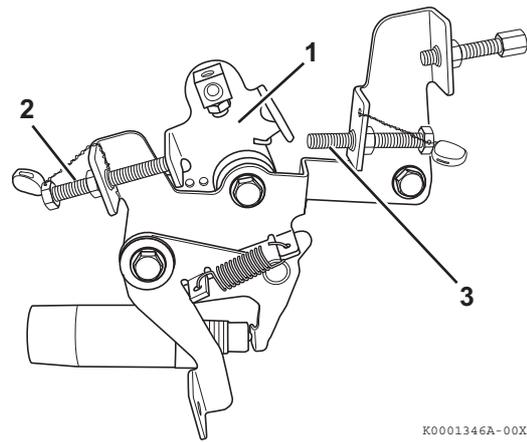

Figure 7
The speed control lever (**Figure 7, (1)**) controls the engine speed. The lever could be linked to the engine speed control device.
The low idle speed limit screw (**Figure 7, (2)**) sets engine speed while it is idling.
The high idle speed limit screw (**Figure 7, (3)**) restricts the maximum engine speed when the engine is operated without a load.